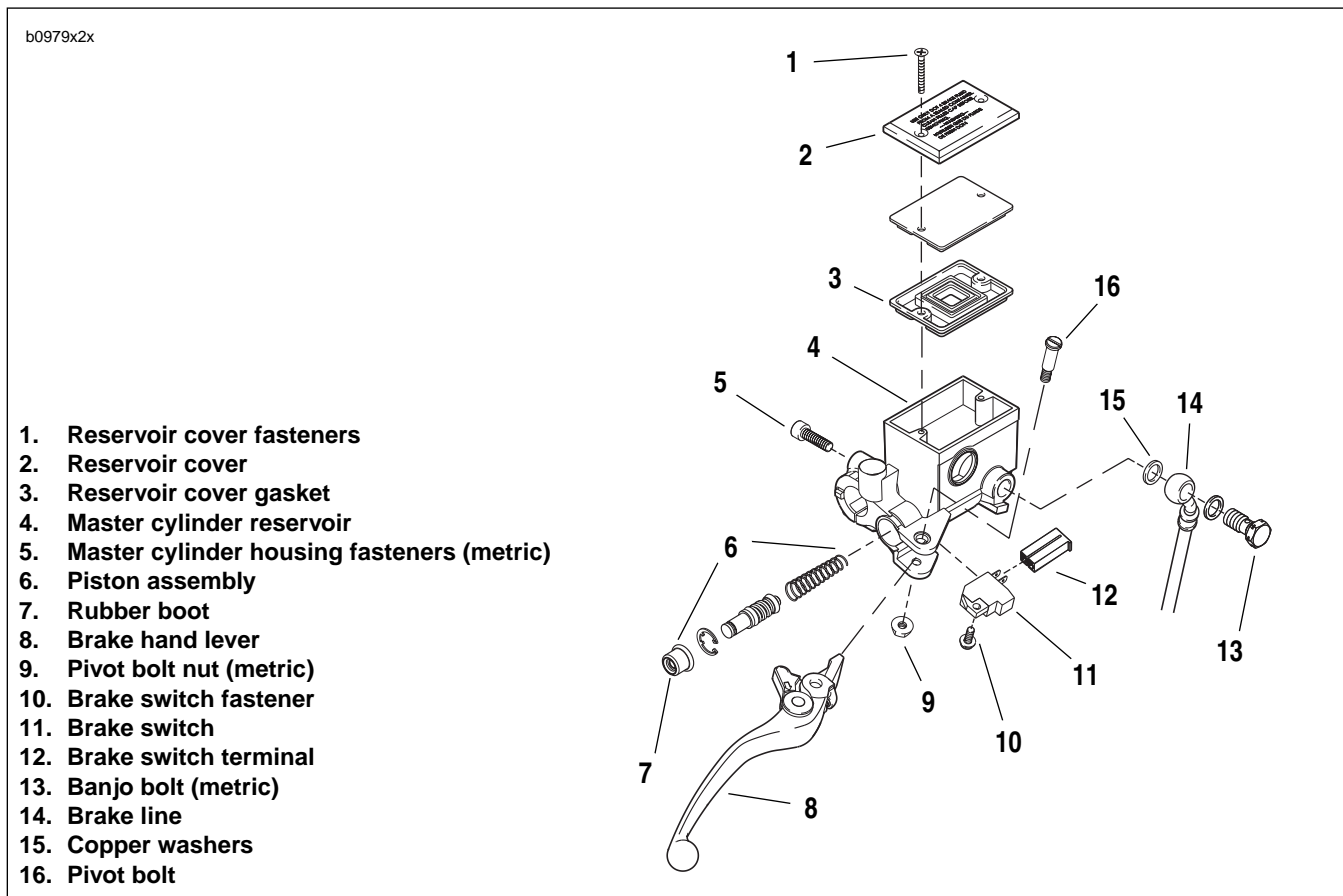

Figure 2-38. Front Brake Hand Lever Assembly
2. See Figure 2-38. Remove the banjo bolt (13) (metric) and two copper washers (15) to disconnect brake line (14) from master cylinder (4). Discard copper washers.
3. Unplug terminal (12) to detach brake lamp switch (11).
1. See Figure 2-38. Remove pivot bolt nut (9) (metric) and pivot bolt (16) from hand lever pivot.
2. Detach front brake hand lever assembly (8) from hand lever pivot.
3. Detach front brake lamp switch (11) by removing the switch fastener (10).
1. See Figure 2-38. Remove master cylinder cover (2) by removing cylinder cover fasteners (1).
3. Remove rubber boot (7) and discard.
5. See Figure 2-38. Remove piston assembly (6) from front master cylinder reservoir (4) and discard.
4. See Figure 2-38. Insert piston assembly (6), spring first, into master cylinder reservoir (4).
1. See Figure 2-38. Lubricate pivot bolt (16) with LOCTITE ANTI-SEIZE.
2. Align hole in hand lever (8) with hole in hand lever pivot and install pivot bolt (16) through top of hand lever pivot and tighten nut to 39-48 **in-lbs** (4.4-5.4 Nm).
1. See Figure 2-38. Install front brake lamp switch (11).
- a. Install brake lamp switch (11) with switch fastener (10) and tighten to 7-10 **in-lbs** (0.8-1.0 Nm).
- b. Connect brake switch terminal (12) to brake lamp switch (11).
3. See Figure 2-38. Connect brake line to master cylinder using two **new** copper washers (15) and banjo bolt (13) (metric) and tighten to 16-20 **ft-lbs** (22-27 Nm).
5. See Figure 2-38. Remove two master cylinder cover screws (1), cover (2) and cover gasket (3).
10. See Figure 2-38. Attach master cylinder cover (2) and cover gasket (3). Tighten two cover fasteners (1) to 9-13 **in-lbs** (1.0-1.5 Nm).
4. See Figure 2-38. Remove master cylinder banjo bolt (13) (metric) and two copper washers (15) to disconnect brake line from master cylinder (4). Discard copper washers.
1. See Figure 2-38. Connect brake line (14) to master cylinder (4) using two **new** copper washers (15) and a banjo bolt (13) (metric). Loosely install bolt into master cylinder.